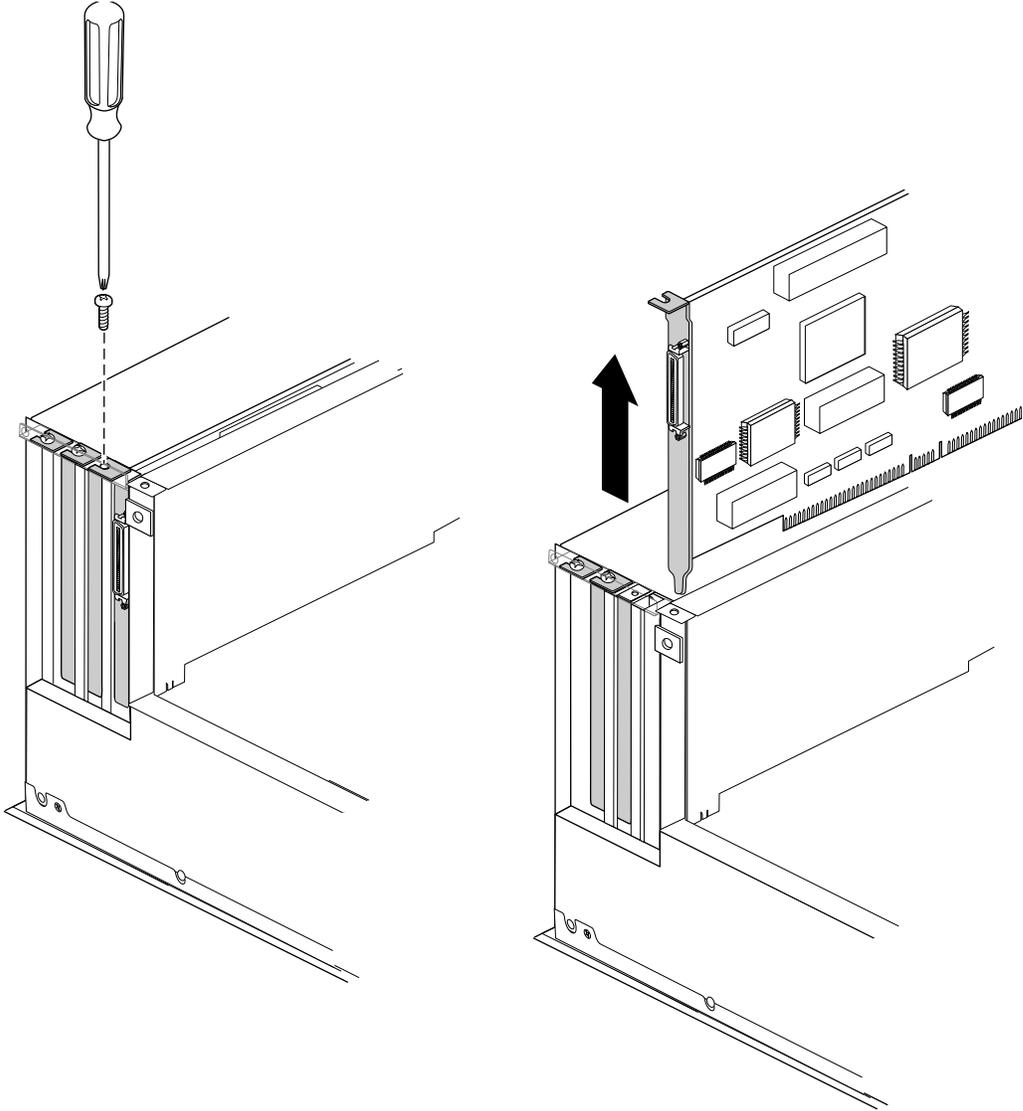

Figure 2-10 Removing a PCI Option Screw and Board
- Using a #2 Phillips screwdriver, remove the screw that secures the PCI option board to the Origin200 chassis, as shown in Figure 2-10. Grasp the PCI option board at the front and rear of the board and pull it straight up and out of the system, as shown in Figure 2-10.